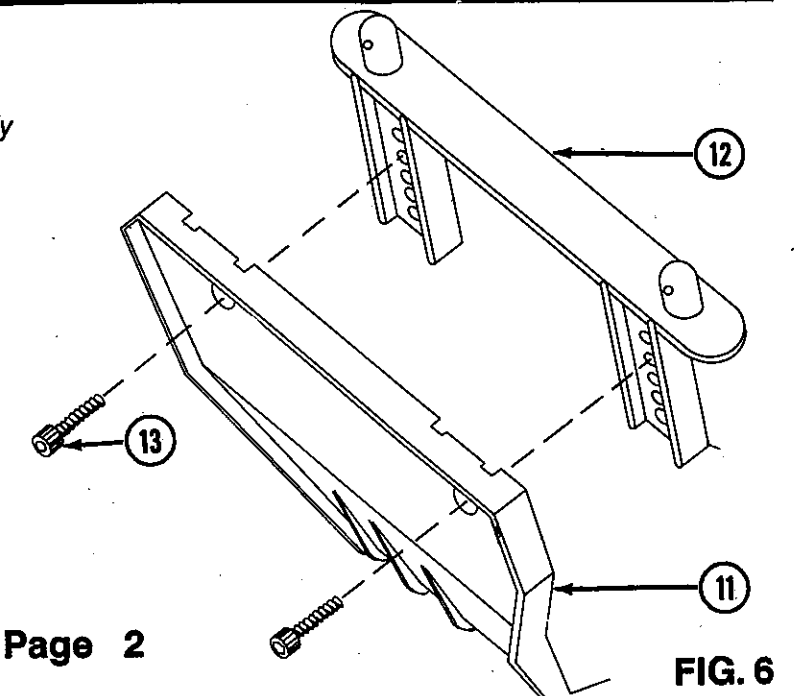

FIG. 6
9. Attach slide (12) to front body mount (11) using two 4-40 x 5/16" socket head screws (13). Fig. 6